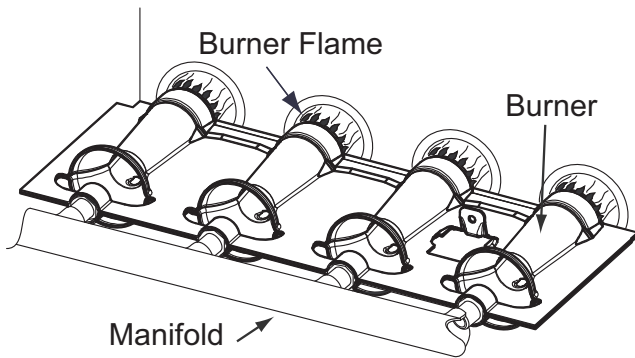

Fig. 69 – Burner Flame
8. Reverse items 6 through 1 for reassembly.
11. Check furnace operation through 2 complete heat operating cycles. Look at burners. Burner flames should be clear blue, almost transparent. See Fig. 69.